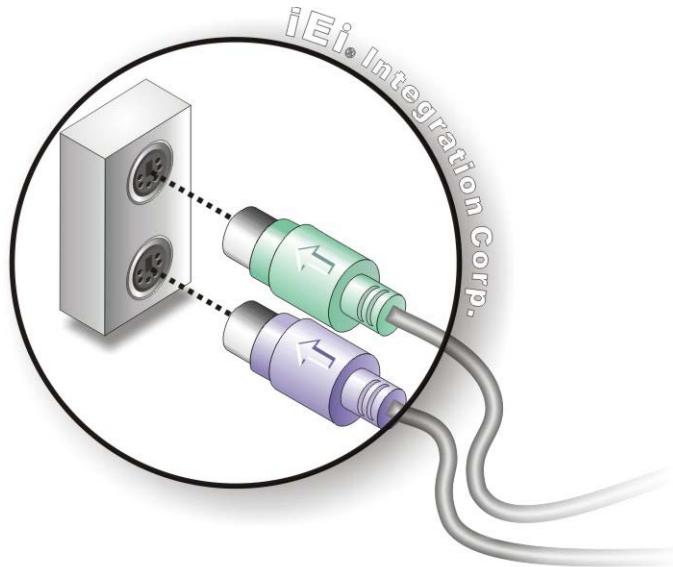

Figure 4-17: PS/2 Keyboard/Mouse Connector
Step 2: Insert the keyboard/mouse connector. Insert a PS/2 keyboard or mouse connector into the appropriate PS/2 connector on the external peripheral interface connector. See **Figure 4-17**.